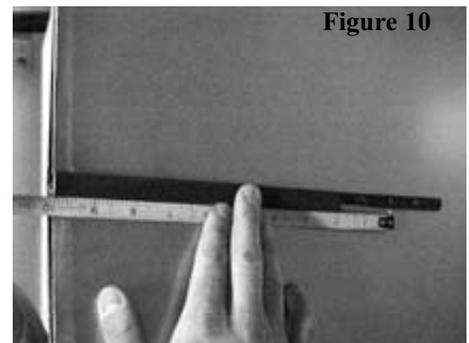

Figure 10
18. Adjust the height of the probe and heat shrink as follows (Figure 10):